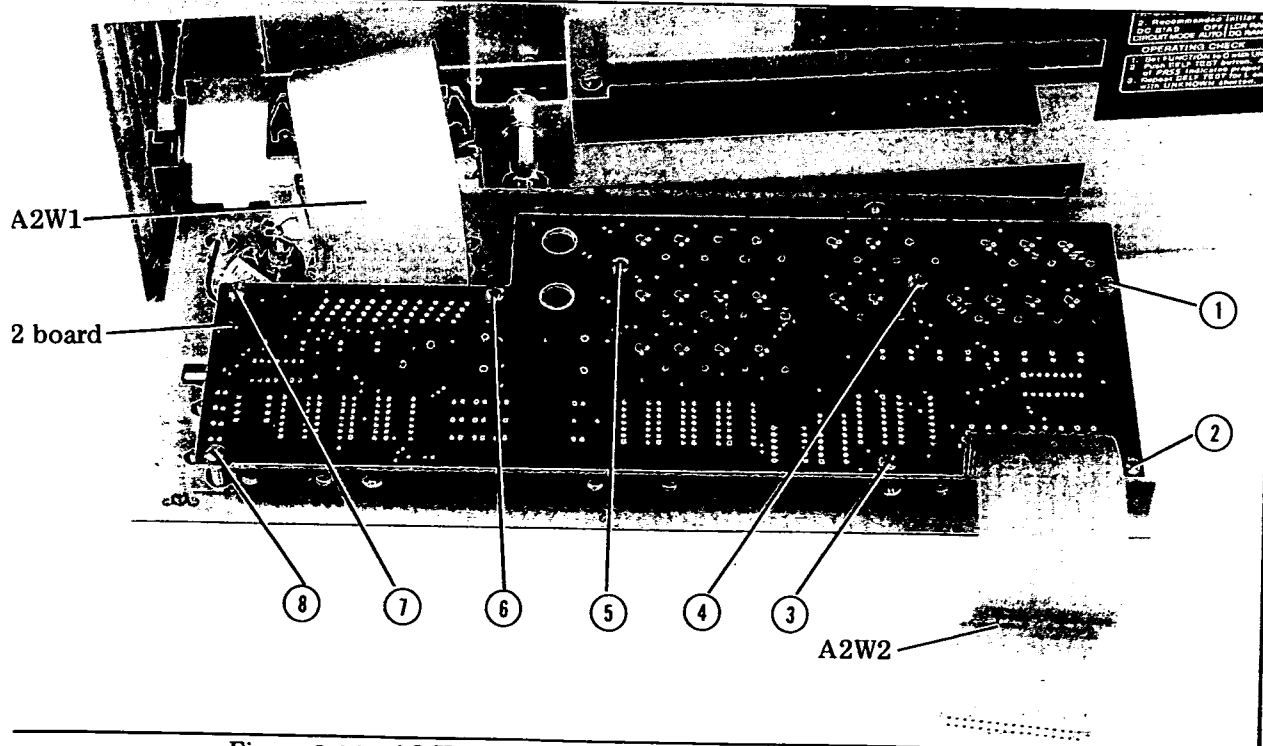

Figure 8-14. A2 Keyboard and Display Board Disassembly.
- f. Disconnect flat cable 40 pin connector A2W1 from the plug mated with A21 board assembly. See Figure 8-14.
- g. Disconnect flat cable 40 pin connector A2W1 from the plug mated with mother board. See Figure 8-14.
- b. Remove the 8 screws (1 through 8) in Figure 8-14) fastening A2 board to front panel.
- b. Remove 8 screws (① through ⑧) in Figure 8-14) fastening A2 board to front panel.